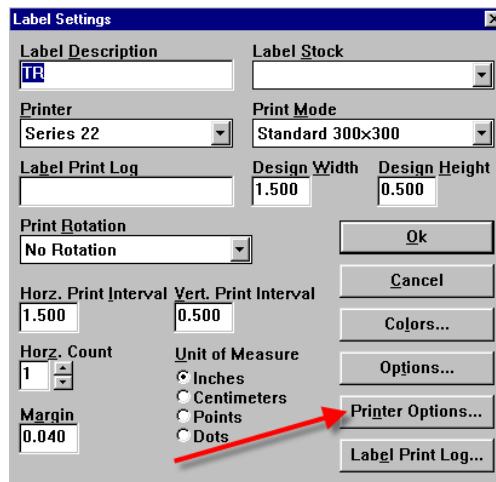

Figure 1-6
1.12. Click [**Printer Options**]. (Figure 1-6)